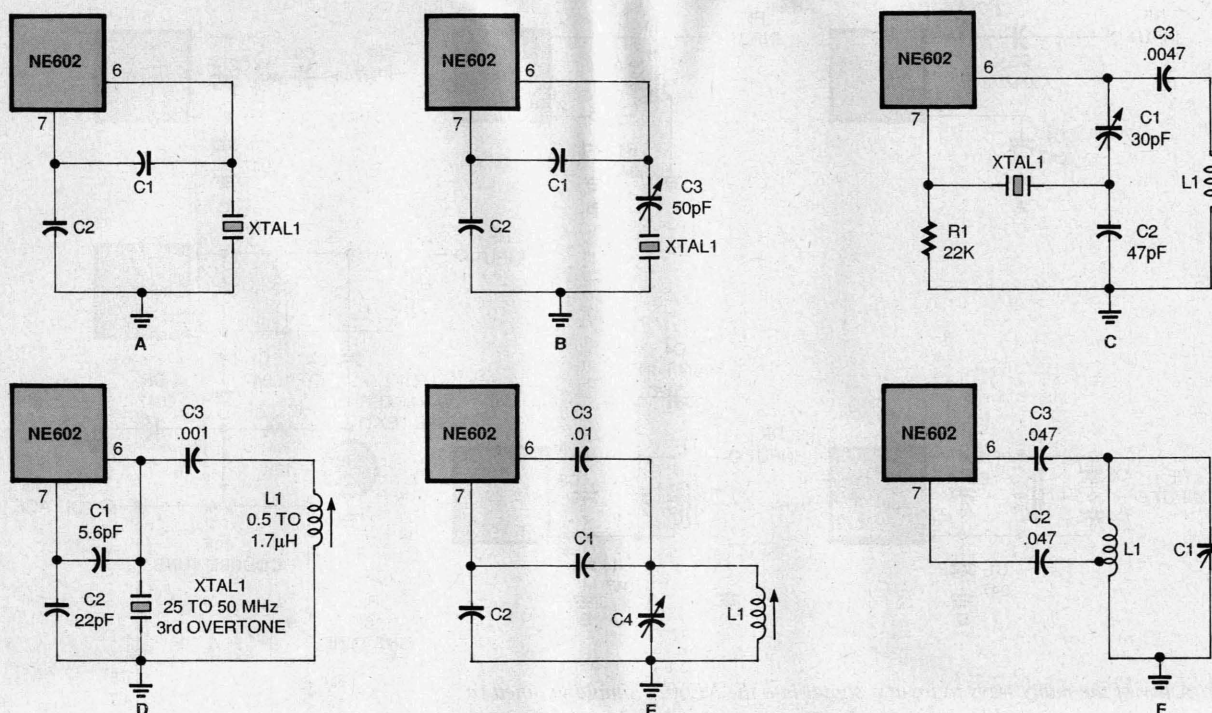

Fig. 7. The local oscillator for the NE602 can take the form of either a crystal-controlled (a through d) or a resonant-tank circuit (e and f).
that can be specified if crystals are being ordered directly from a manufacturer. In Fig. 7-b, a variable, or "trimmer" capacitor is placed in series with the crystal in order to set the frequency. The trimmer capacitor can be adjusted to set the oscillator to the desired frequency.
Figures 7-c and 7-d are overtone-mode crystal-oscillator circuits. The circuit in Fig. 7-c is a Butler oscillator. The overtone crystal is connected between the oscillator emitter of the NE602 (pin 7) and a capacitive voltage divider that is connected between the oscillator base (pin 6) and ground. There is also an inductor in the circuit (L1) that must resonate with C1 to the overtone frequency of crystal XTAL1. Figure 7-c can use either 3rd- or 5th-overtone crystals up to about 80 MHz. The circuit in Fig. 7-d is a third-overtone crystal oscillator that works from 25 to about 50 MHz, and is simpler than Fig. 7-c.
A pair of variable-frequency oscillator (VFO) circuits are shown in Fig. 7-e and 7-f. The circuit in Fig. 7-e is a Colpitts-oscillator version, while Fig. 7-f is a Hartley-oscillator version. In both
oscillators, the resonating element is an inductor-capacitor (LC) tuned-resonant circuit. In Fig. 7-e, however, the feedback network is a tapped-capacitor voltage divider, while in Fig. 7-f it is a tap on the resonating inductor. In both cases, a DC-blocking capacitor to pin 6 is needed in order to prevent the oscillator from being DC grounded through the resistance of the inductor.